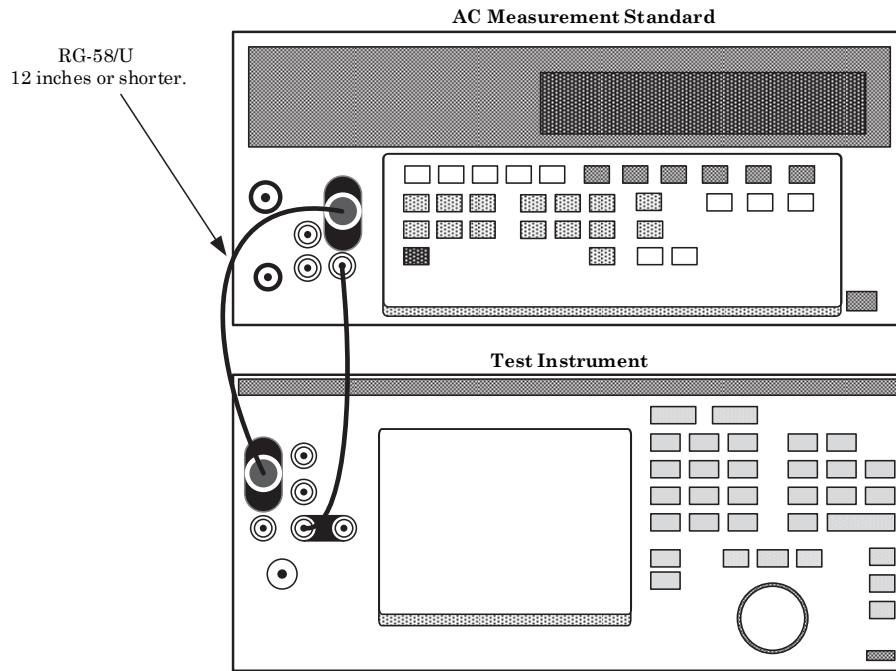

Figure 9. AC Voltage Connection.
(1) Connect equipment as shown in figure 9.